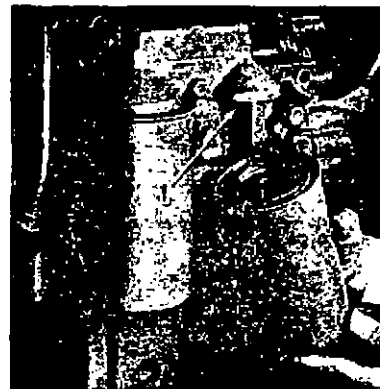

Fig. 12
- (a) Remove the canisters from the filter headcasting (see Fig. 12).
- (b) Check that the threaded adaptors (1) are secure in the headcasting.